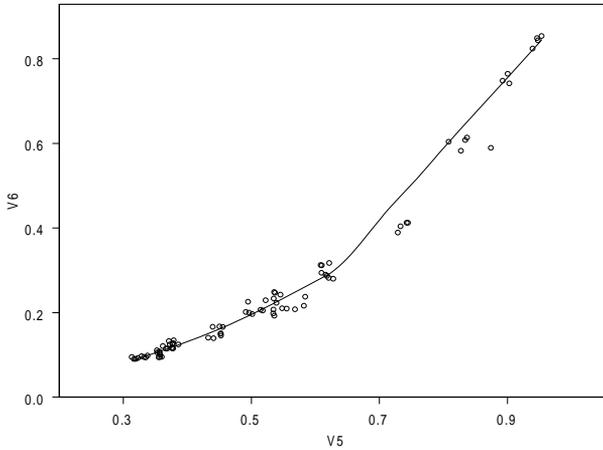

Figure 3.19: Sensor 5 versus sensor 6 with a loess smoother line using the default bandwidth.
- Click a point in the plot to select the plot and then click the **Loess** button  on the **Plots 2D** palette to make a loess curve fit to the sensors data and plot the curve fit with the data. The result is shown in Figure 3.19.